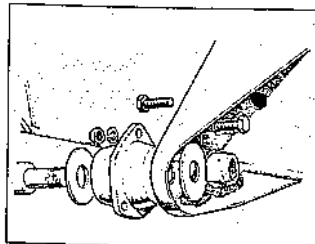

Fig. 11.9 Rear radius arm-to-bracket mounting. Either nuts and washers or self-locking nuts may be found (Sec 9)
- 6 Lower the radius arm from the rear bracket on the underneath of the axle casing and withdraw it from the front mounting bush. If difficulty is experienced, unbolt the front bush from the bracket and remove it with the arm (Fig. 11.9).